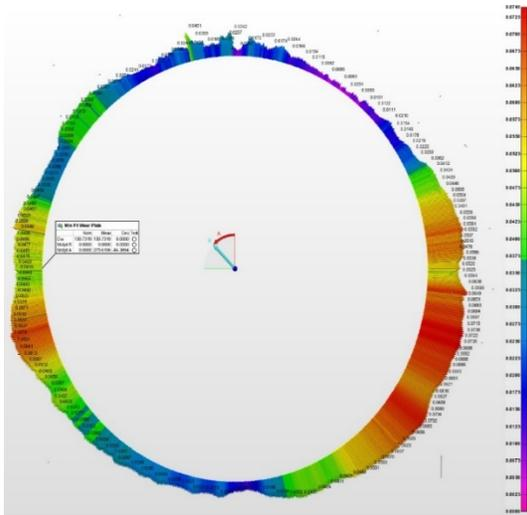

Figure 5: Wear plate minimum fit deviations
**Analysis:** Point clouds were able to be analyzed and the deviation from maximum and minimum fits visualized as shown in Figures 5 and 6.